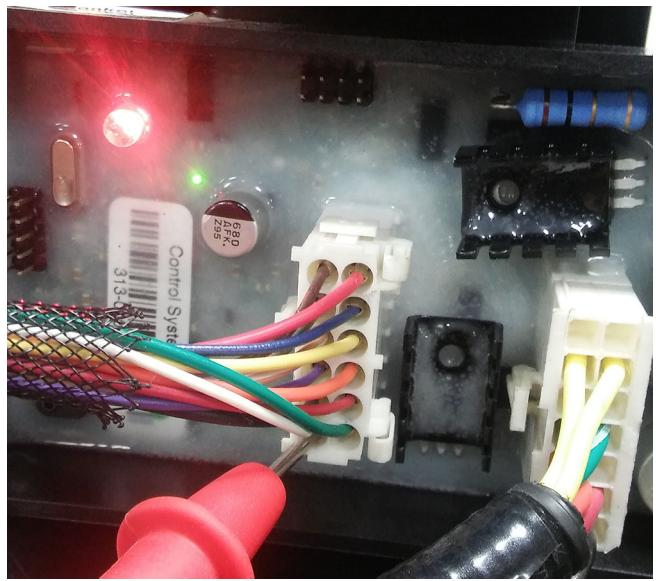

Figure 165
- c. If no voltage is present at the injector, check battery voltage by probing the red and white wires on the 12-pin ECU connector with the red probe and contact the black probe against the engine block. With the ignition key in the ON position, each terminal should measure 7.2 V DC – 8.4 V DC. See Figure 165.